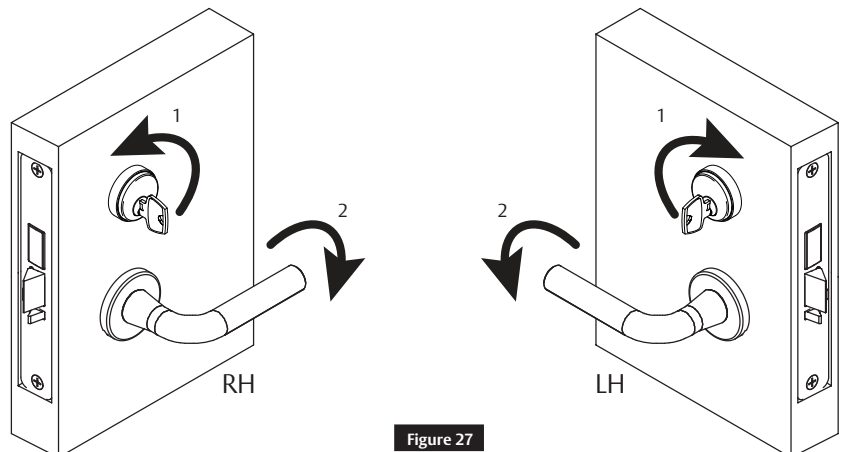

Figure 27
2. Continue holding key, rotate lever with other hand and open door. (Figure 27)